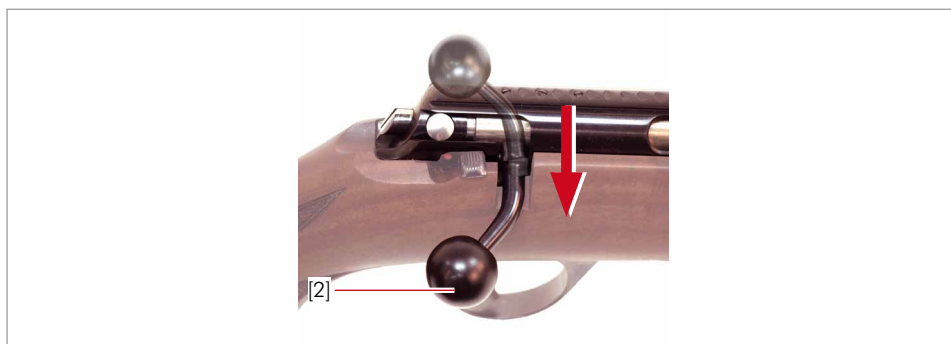

Fig.16 Pivoting the bolt handle downwards
- Pull the trigger [13] (direction of arrow) and in the same sequence of actions, close the breech [3] and carefully pivot the bolt handle [2] downwards, as shown in Fig. 16.